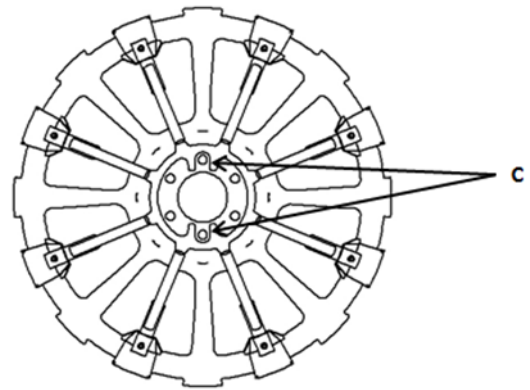

Figure 7-11: Center-Mount Wheel Filler Hole Alignment
NOTE: If bolts (B) are removed, they must be reassembled in holes (C) shown below in Figure 7-11. The bolts must line up exactly in line with the opposite spokes of the lifter wheels or they will not line up correctly on the wheel fillers.